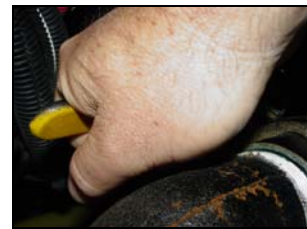

Figure 2 Turn off shut-off valve
2. Turn the shut-off valve to the OFF position. (Figure 2).